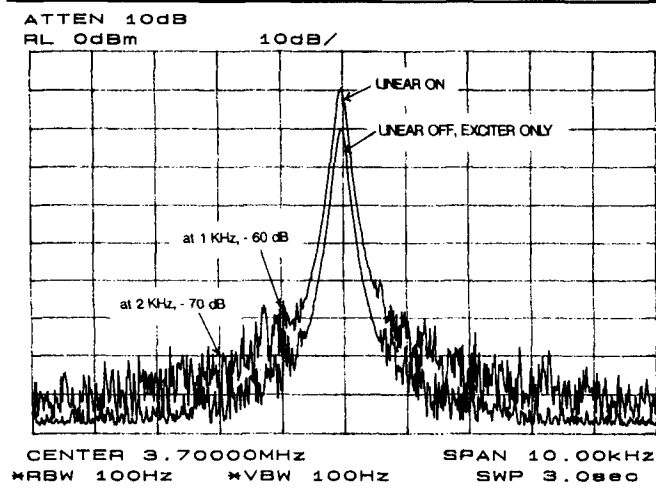

Fig 2—Carrier
a) CW Output—key down and tune for maximum output. Observe the spectrum around the carrier for noise and spurious emissions. Turn the linear on and off to measure the gain to see if the linear degrades the exciter spectrum. Fig 2 shows that the linear has about 10 dB of gain at the carrier frequency and, as it turns out, across the rest of the spectrum; it does not add any sig-